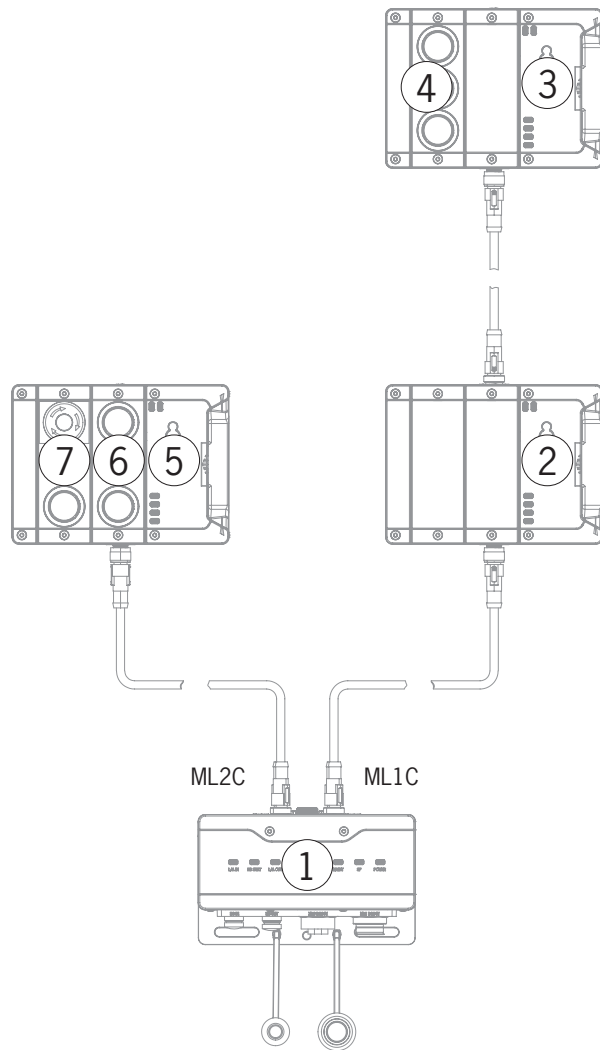

Fig. 4: Counting sequence
- Topology (see Fig. 4: Counting sequence on page 29)